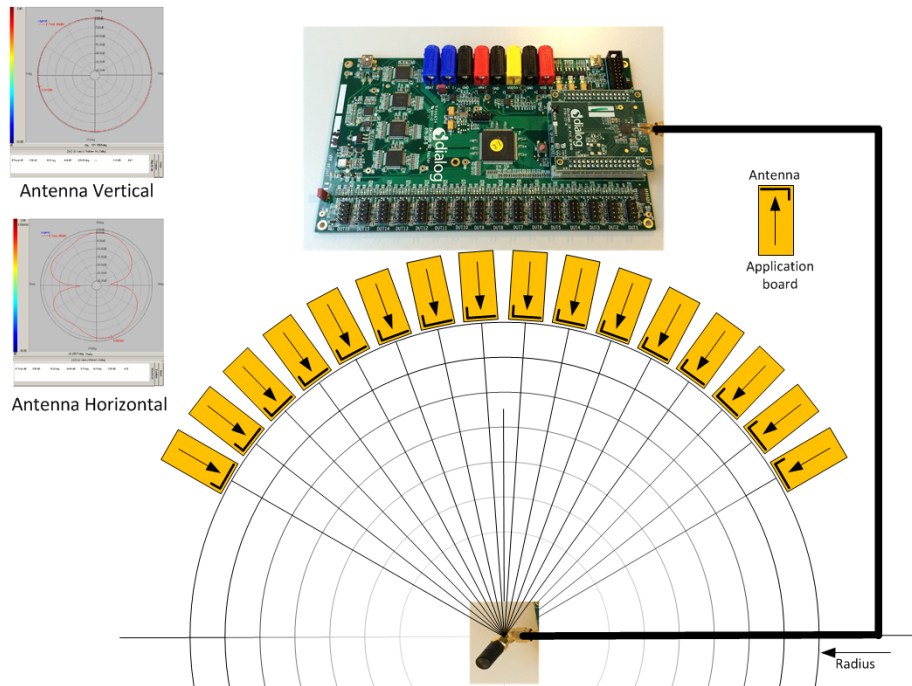

Figure 132: Possible Solution of Antenna on Cable and Fixed Radius of DUTs to Antenna
- A vertical GU antenna has different characteristics from a horizontal one. See Figure 132.